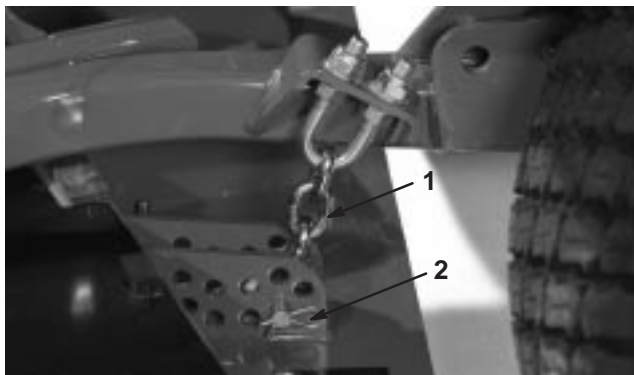

Figure 4
7. Slightly raise deck to remove tension from the height-of-cut chains. Remove hair pin cotters and clevis pins securing height-of-cut chains to rear of deck (Fig. 4). Retain hair pin cotters and clevis pins for re-installation of front deck